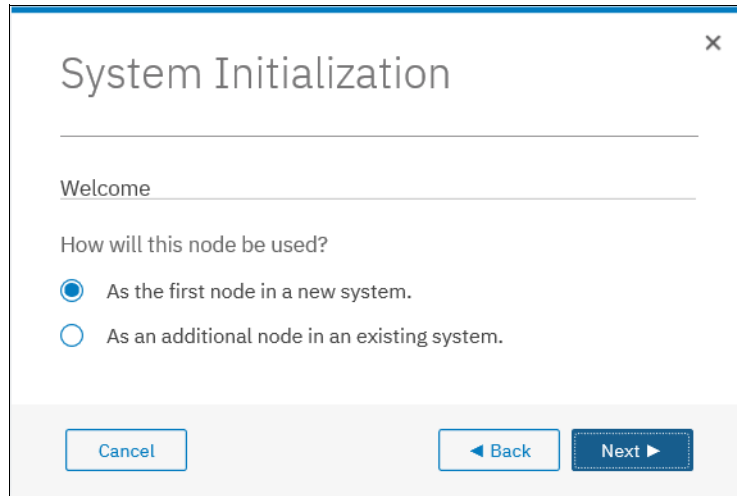

Figure 3-6 System Initialization: Create a system or expand the existing one
4. A window opens in which two options are presented, as shown in Figure 3-6. Select the first option and click **Next**.